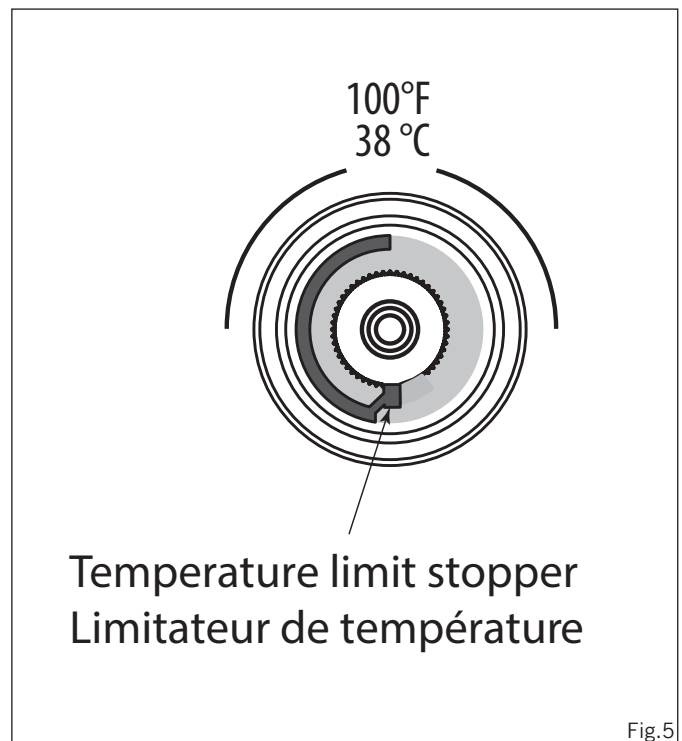

Fig.5
Shut off the main water supply, then remove all the components from (7) to (21). (See Fig.5). Afterwards, shut off the 2 check valves (1) by turning them clockwise with a screwdriver. Unscrew the screw (3), the large nuts (5 & 6) and remove the cartridges (2 & 4).